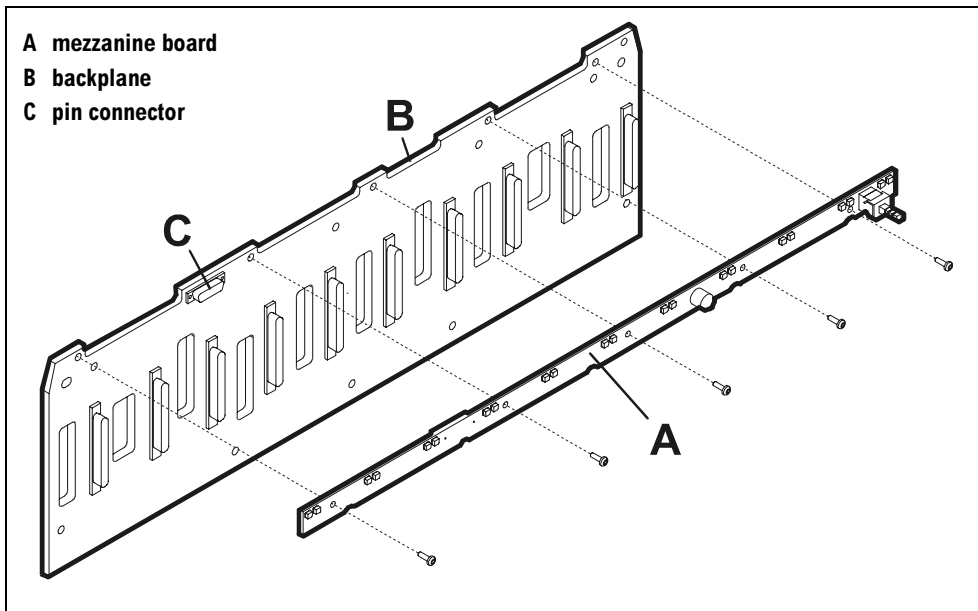

Figure 49 Mezzanine Assembly
- a. Remove the five Torx T10 screws securing the mezzanine to the backplane (see Figure 49).
- b. Pull the mezzanine board free of its connector (C) on the backplane.
- a. Attach the new mezzanine to the backplane connector (C in Figure 49).